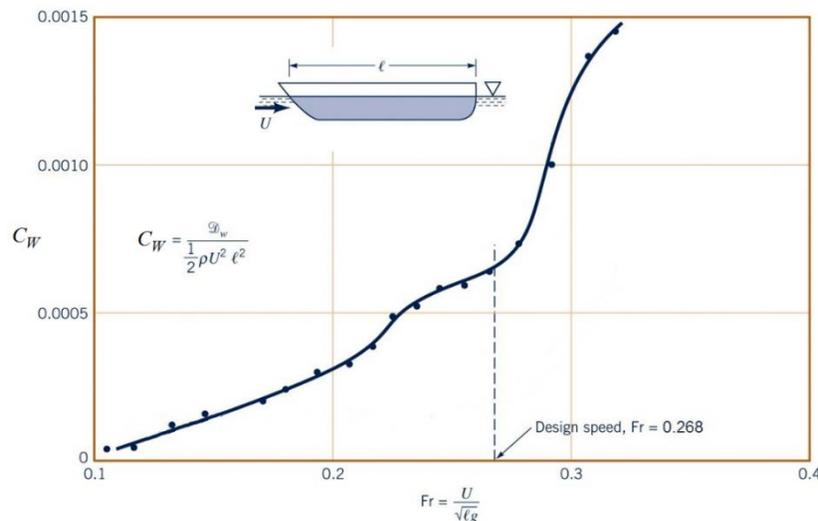

Figure 6
6. Wave-making drag D_w of a ship hull can be expressed as $D_w = f(\ell, U, \rho, g)$, where ℓ is the ship length, U the ship speed, ρ the fluid density and g the gravity. (a) Use dimensional analysis and find a suitable set of dimensionless pi parameters for this problem. Use ℓ, U, ρ as repeating variables. (b) A towing tank experiment is planned for a 1/25-scale model in fresh water ($\rho = 999 \text{ kg/m}^3$) for a 100-m long prototype ship cruising at a design speed of 16.3 knots in sea water ($\rho = 1,030 \text{ kg/m}^3$). Determine the model towing speed to achieve Froude scaling (or the Fr similarity). (c) Fig. 6 shows the relationship between wave-drag coefficient C_W and Froude number Fr . Estimate the wave-making drag for each of the model and prototype ship. (Note: 1 knot = 0.5144 m/s)